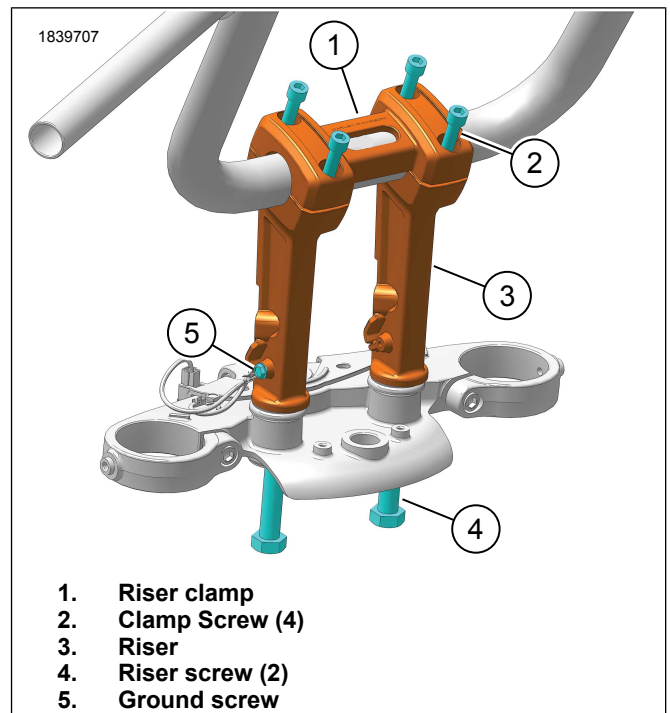
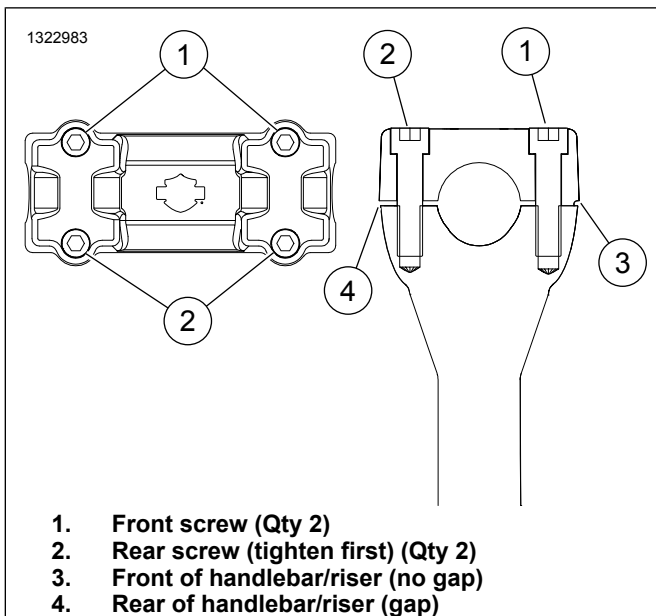

Figure 4. Riser Install
Figure 6. Handlebar Mounting (Typical)
1. Figure 4 Install risers to upper fork stem bracket.
- a. Position riser (3) on upper fork stem.
- b. Install riser screws (4). Do not tighten screws at this time.
- a. Loosely install riser clamp (1) with text facing rider.
- b. Install clamp screws (2).
4. Figure 6 Tighten clamp screws in order.
- c. Tighten rear screws (2).
5. Figure 4 Apply threadlocker to riser screws.
- a. Remove one riser screw (4).